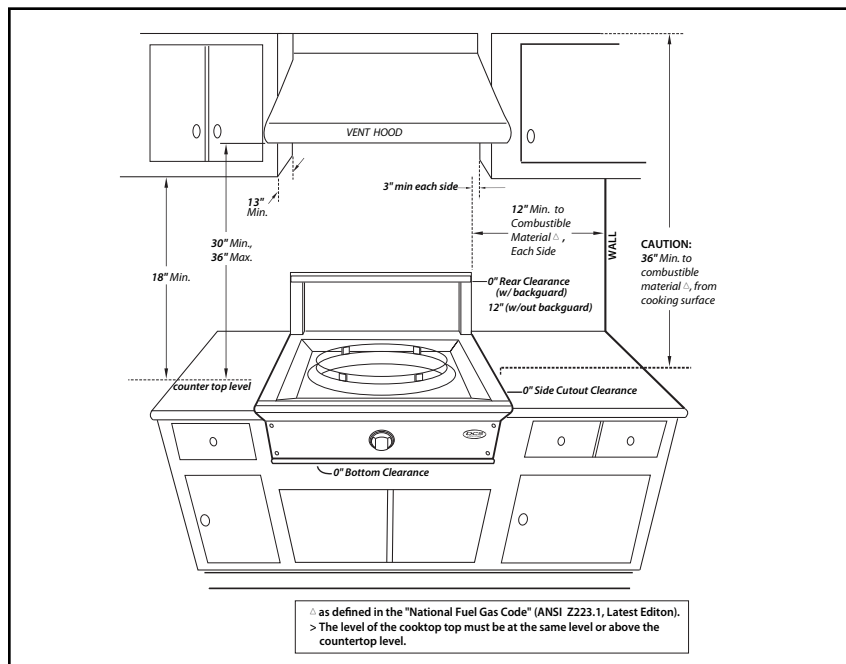

Fig. 1
2. The clearances shown in Fig.1 are required for installations of wok cooktop and backguard.